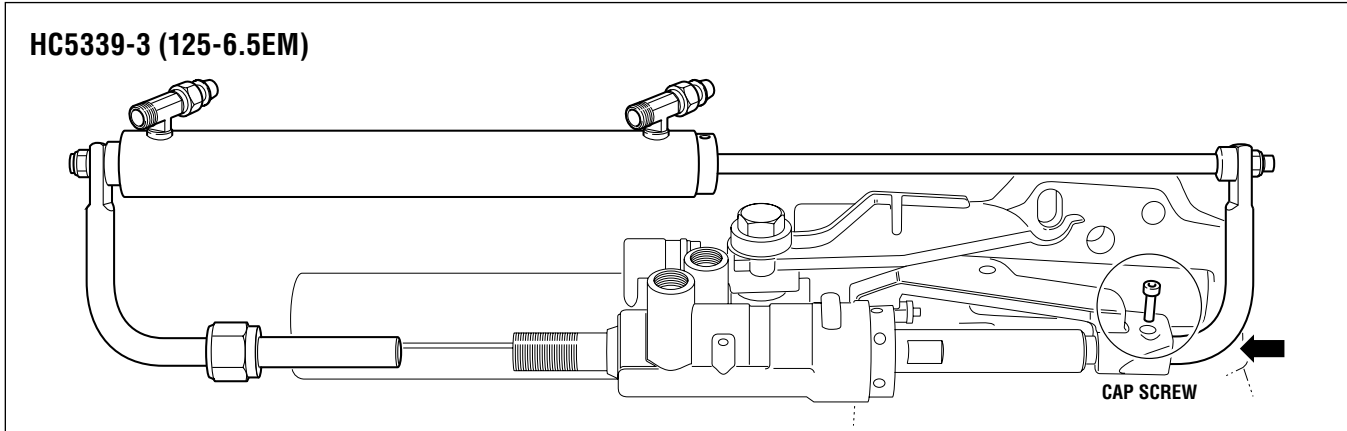

Figure 14.
- 2** Insert the long rod of the HC5339-3 cylinder into the clevis bracket until the through hole in the rod is aligned with the hole in the clevis bracket. Refer to figure 14.